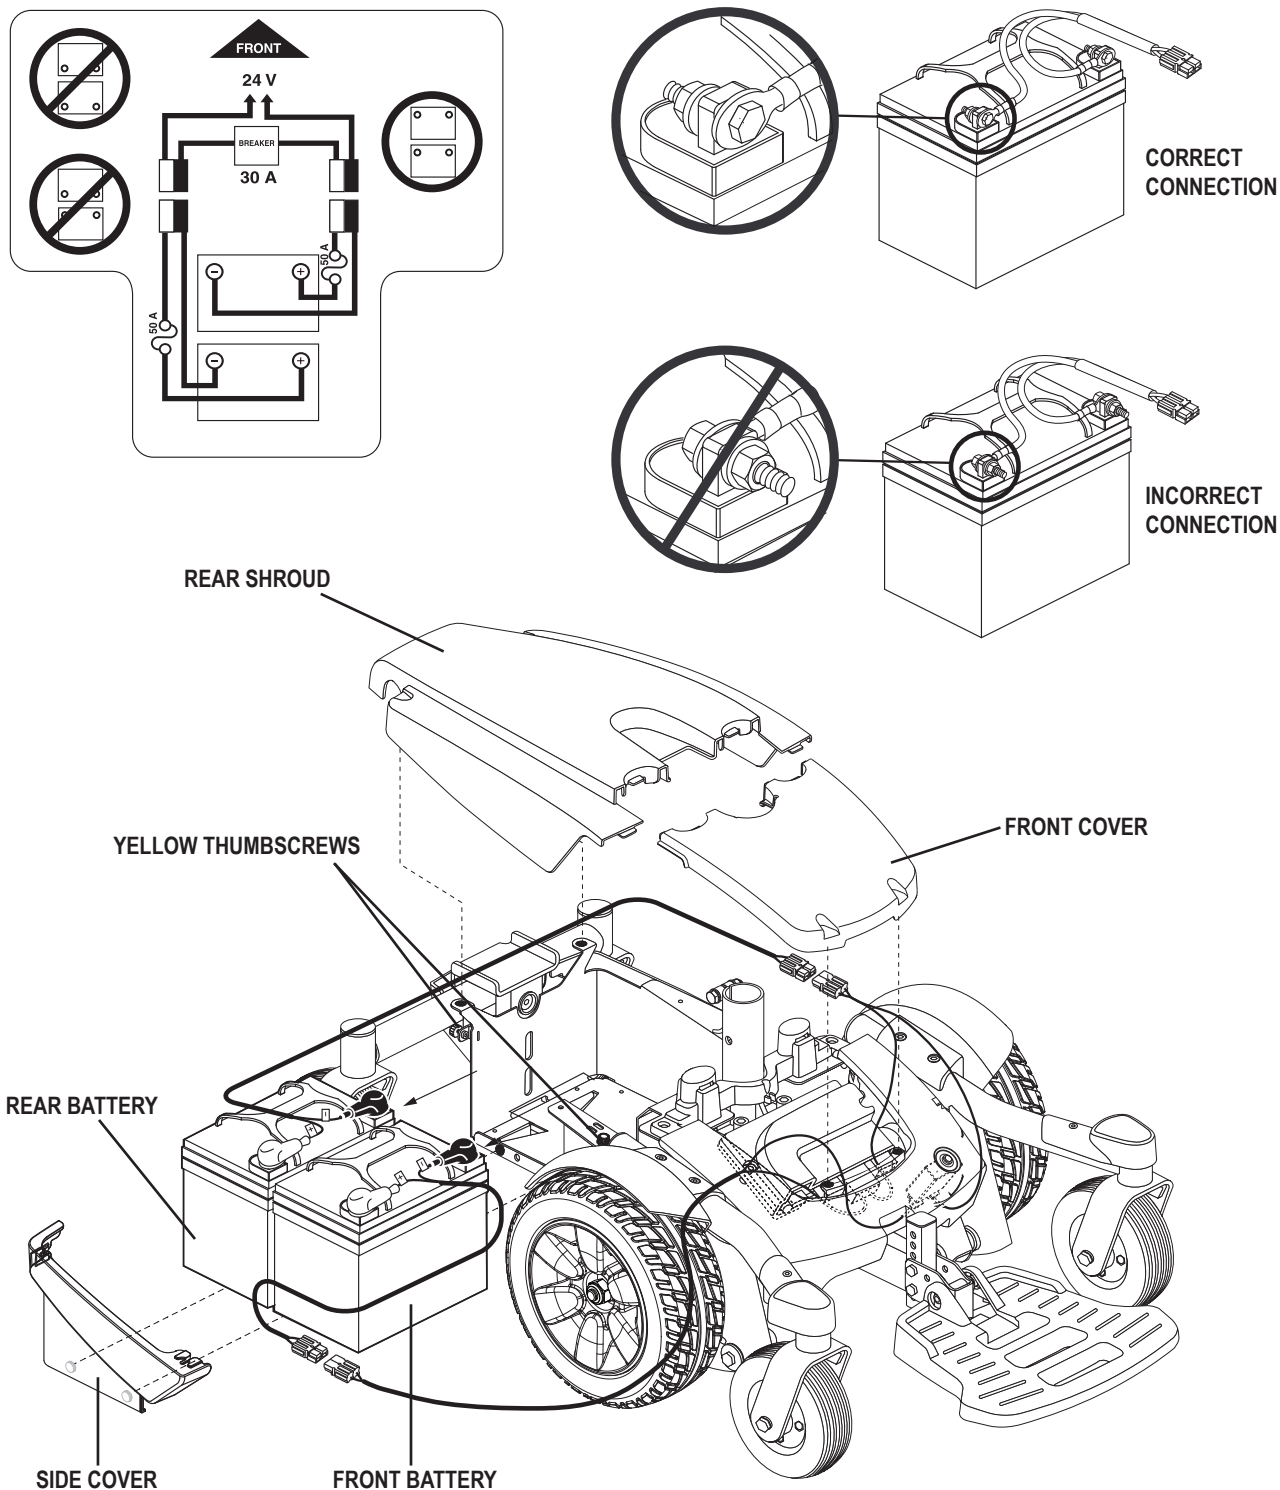

Figure 16. Battery Installation (Seat Removed for Clarity)
3. Remove the rear shroud. See figure 16.
5. Disconnect the rear battery harness from the power base. See figure 16.
8. Disconnect the front battery harness from the power base. See figure 16.
10. Remove the battery harnesses from the old batteries and install them onto the new batteries. Make sure that the hardware is facing the correct direction. See figure 16.
11. Place the front battery into the power base. Make sure that the terminals are facing the front of the power base. See figure 16.
14. Place the rear battery onto the power base. Make sure that the terminals are facing the front of the power base. See figure 16.